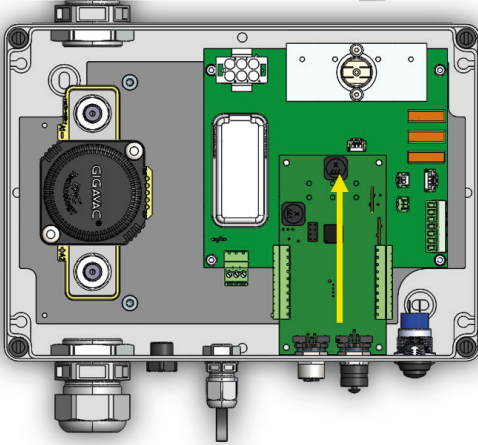

Figure 22. Slide the BCI PCB carefully out of the CAN connector housing.
5. To remove the BCI board from the BIB, slide the BCI PCB carefully out of the CAN connector housings in the direction shown in Figure 22.